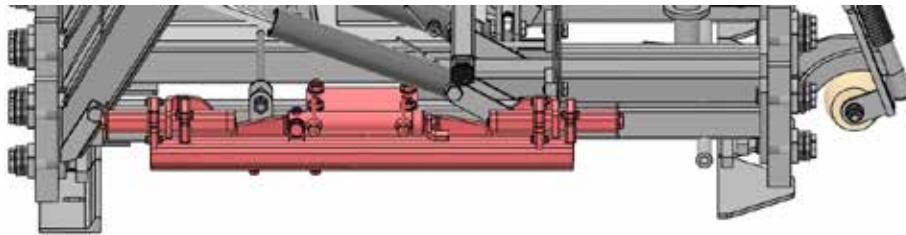
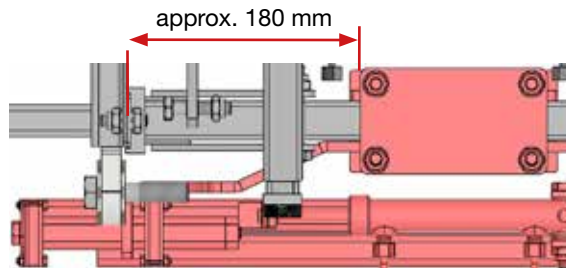

Fig. 56. GAP system on the left
Fig. 59. GAP system on the right - Installation detail
4. Set the distance to 180mm between the outer tube and the adapter plate (see Fig. 56 - Fig. 59).